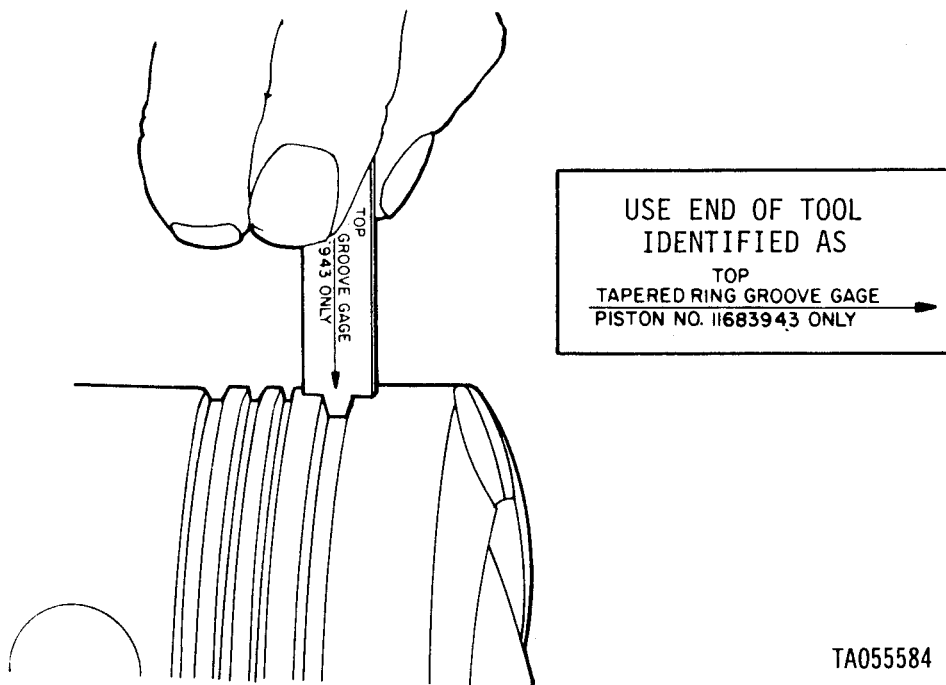

Figure 3-183.1. Checking piston top ring groove using tapered piston ring gage.
b. Inspect piston (9, fig. 3-183) for cracks, flaws or distortion. Use a magnifying glass and a strong light. Small cracks will show under the light as irregular or dark streaks. Inspect the top (tapered) ring groove using piston ring gage, part number 12254296 (fig. 3-183.1). Insert gage in top groove. If the shoulder of the gage touches the ring land, the piston must be discarded. If the piston ring gage is not available, the top groove may be checked by measuring over pins and the measurement checked against limits specified in repair standards (table 3-11). Check the second, third, and fourth ring grooves against limits specified in repair standards (table 3-11). Inspect piston for damage or broken ring lands, nicks, burs, or scratches. Inspect piston pin bores for wear, cracks, or abrasions. Replace piston if unserviceable.